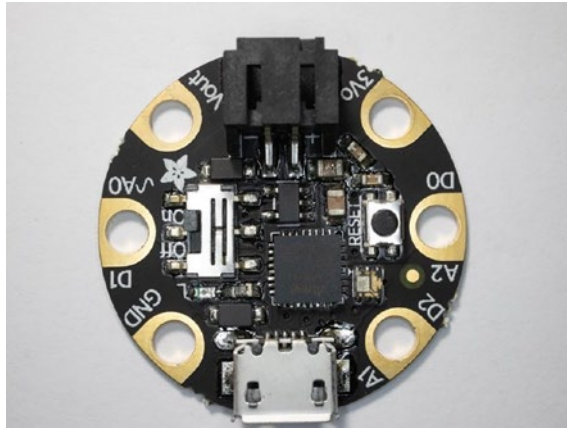

Figure 4-16. *The Adafruit Gemma M0 microcontroller board*
Step 1: Prepare the Gemma M0 board (Figure 4-16) with CircuitPython.